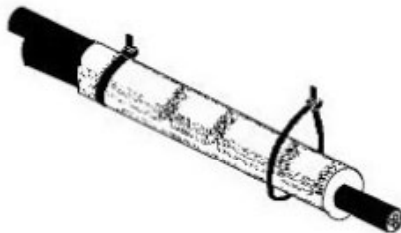

FIGURE 4
7. Install the two wire ties in the notches of the snap locks. Splice is complete and ready for use. See Figure 4.